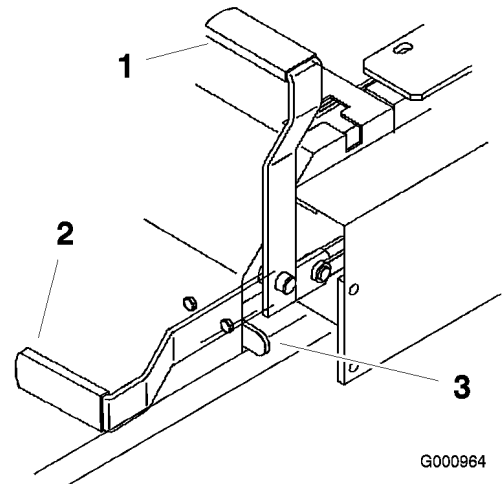

Figure 11
2. Pull up and back on the parking brake lever to set the parking brake (Figure 11). The parking brake lever should stay firmly in the engaged position.
Push forward and down on the parking brake lever to release the parking brake (Figure 11). The